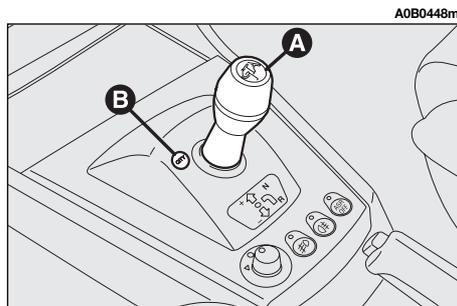
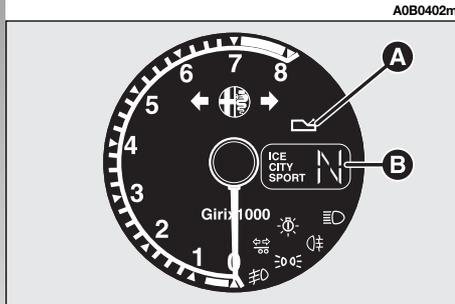

fig. 114
fig. 116
Gearshifting takes place through a floating control lever (**A-fig. 114**) with only one stable central position. Using this lever it is possible to request increase/decrease of the ratio of the gear engaged and/or engagement of reverse gear (**R**) or neutral (**N**).
– the second is automatic, called **CITY** (mode selectable with the specific button **B**-fig. 114, the **CITY** sign appears on the display **fig. 116** fitted on rev-counter), in which the system decides directly when to shift gear.
The gear engaged (**fig. 116**) is always signalled on the display regardless of the selected mode.
Failures of Selespeed gearbox are signalled to the driver through a warning light (**A**-fig. 116) accompanied by an acoustic signal.
Turning the ignition key to **MAR**, all the segments of the display (**B-fig. 116**), the gearbox failure warning light (**A-fig. 116**) and the word **CITY** light up. After about one second, the display indicates the gear engaged (**N, 1, 2, 3, 4, 5, 6, R**); from this moment, the Selespeed system accepts gearshift commands.